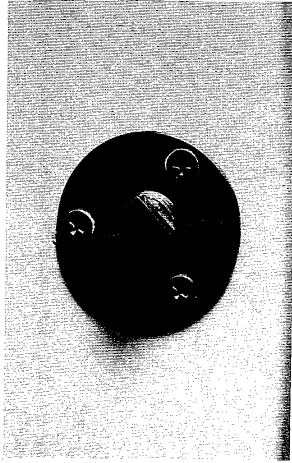

Figure 15
1. Remove the hull drain plug. The plug is in the outside of the transom below the gimbal. See figure 15.